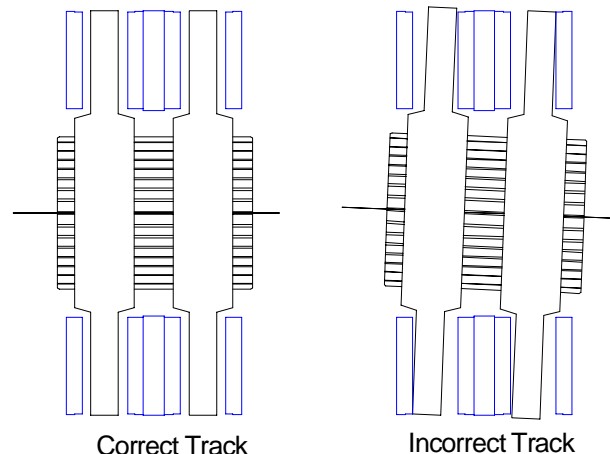

Figure 5
Proper alignment is necessary to assure that the discs will track properly. Improper alignment will result in excessive wear to the friction discs (8), discs (58) and gear (28). See Figure 5.